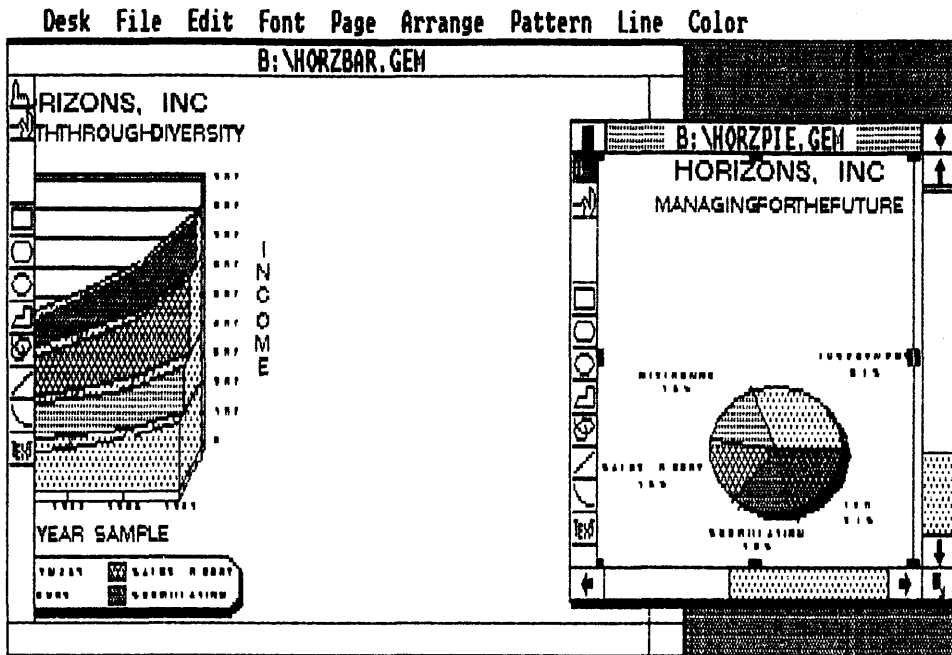

Fig. 5-8. GEM Draw can be used for combining two separate GEM Graph graphs onto the same page.
- ☐ Drag the grouped second graph into the window of the first graph (Fig. 5-8)